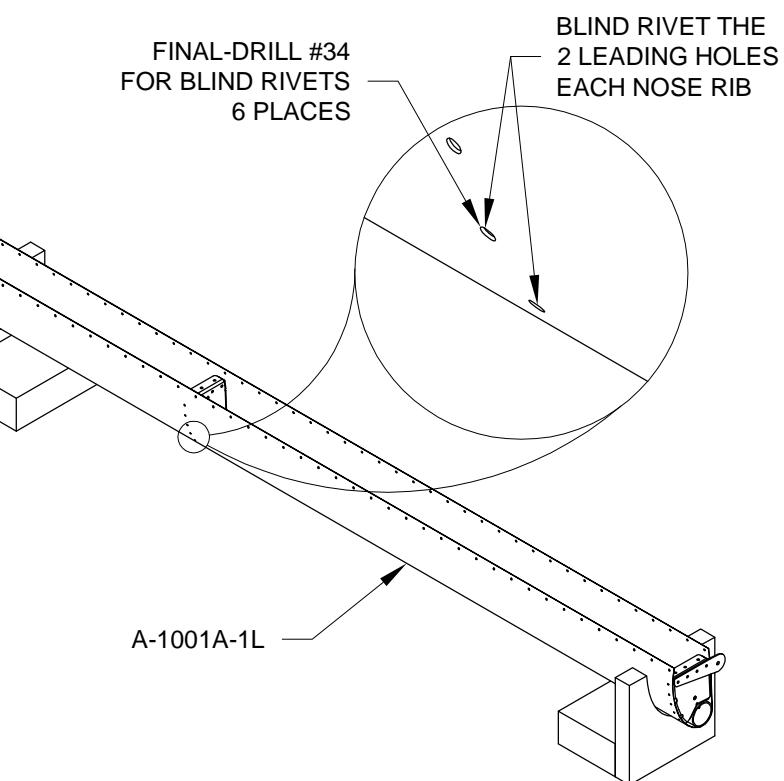

FIGURE 2: RIVETING NOSE SKIN
CAUTION: Damage to the nose skin may result if solid rivets are substituted for the blind rivets shown in Figure 2.
Step 2: Rivet the A-1004-1R and A-1015-1L Nose Ribs to the A-1001A-1L Nose Skin as shown in Figure 2. For rivet call outs see Page 21-09, Figure 2. The solid rivets can be set with a hand squeezer if a .500 [12.7 mm] tall set is used on the shop head side.
Final-Drill #34 the holes shown in Figure 2. Blind rivet the nose skin to nose rib holes as shown in Figure 2.